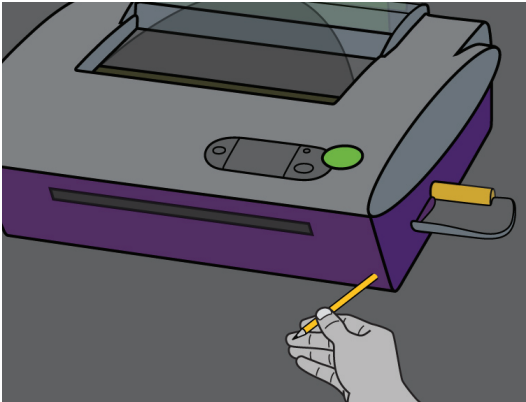

FIGURE 32
2. Open the machine by pushing the eraser end of a pencil (or similar object) through the hole in the lower right corner of the machine (figure 32) until the machine cover pops open slightly.